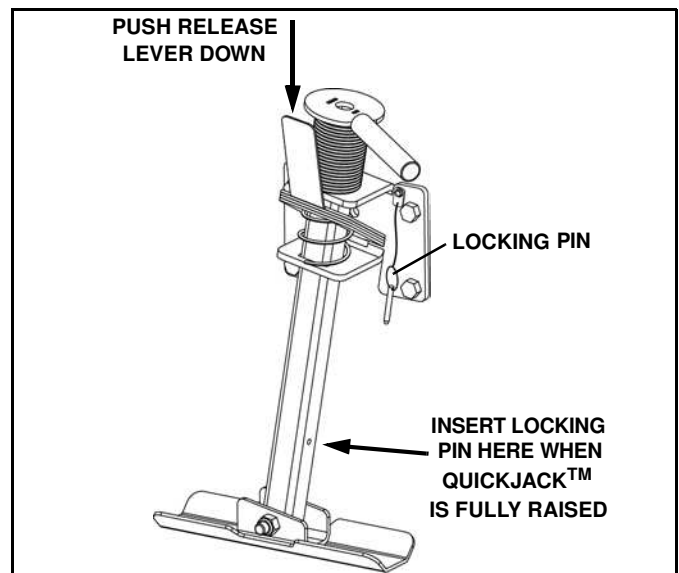

Figure 1-19
24. Raise QuickJack™ foot by pushing down on its release lever. Insert the locking pin in the QuickJack™ tube to prevent the jack from dropping during transport or plowing operations. (See Figure 1-19).